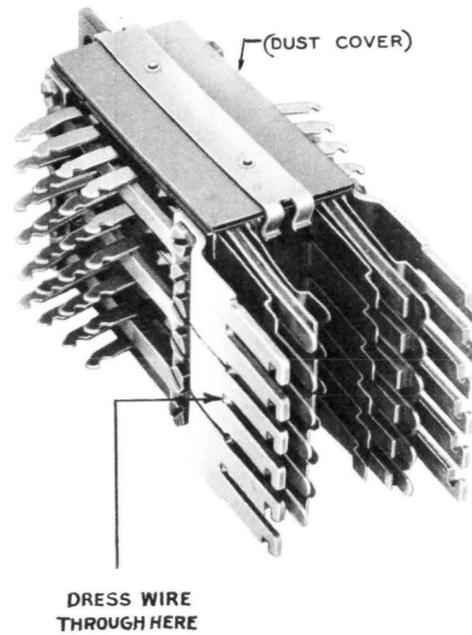

Fig. 16 – Location of Short Slot Used When Dressing Strap Forward on 444-type Jacks
11.08 When the methods outlined in 11.06 and 11.07 cannot be used on 444-type jacks, the only other possibility is to run the straps through the slots in the front of the assembly. (See Fig. 16.)